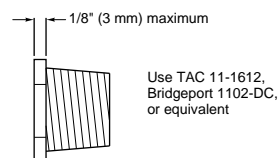
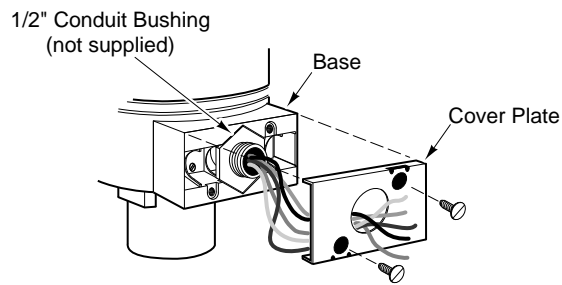

Figure-9 1/2" Conduit Bushing.
Figure-10 Conduit Bushing and Cover Plate Installation.
2. Slip the actuator's leads through a standard 1/2" conduit bushing (Figure-9, not supplied) and the knockout hole in the cover plate. Refer to Figure-10.
Note: As shown in Figure-10, the hole in the cover plate of the actuator conduit housing is sized to accept both British standard M20 (20 mm) conduit connectors and 20 mm-to-PG16 adaptors for use with DIN PG16 connectors. (Follow the steps for installing the conduit box to the actuator.)